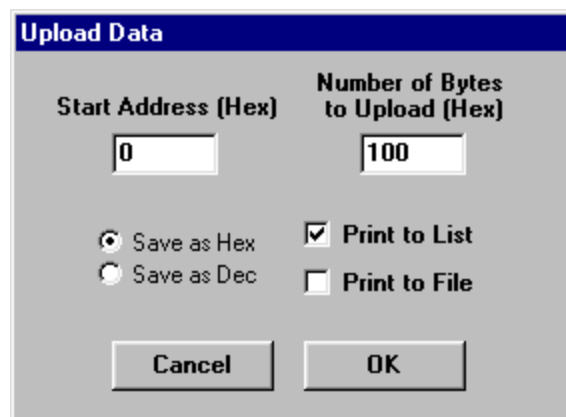

Figure 6. the Upload Data Screen
If the user has acquired ADC data from the AD73360(L) which is stored in data memory it can be uploaded to the PC. Clicking the **Upload Data** button will display the screen shown in Figure 6. The user can select the start address and the number of words to upload. The uploaded data can be saved to a file or to a list box on the Basic Mode Screen. The user also has the option to save/display the data in decimal or hexadecimal format.